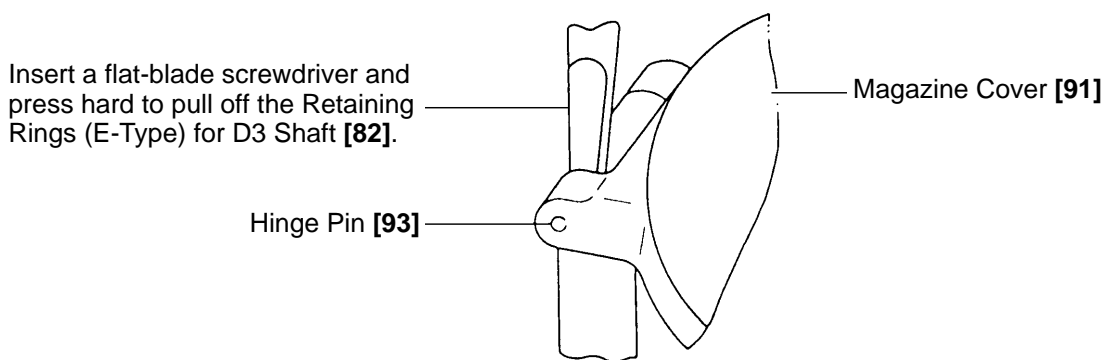

Fig. 16
- Insert a flat-blade screwdriver into a clearance between the Magazine Cover [91] and the Magazine [81], and press it hard to pull off the Retaining Rings (E-Type) for D3 Shaft [82] (See Fig. 16) (Take care not to lose the Retaining Rings (E-Type) [82]).
- Insert a flat-blade screwdriver into a clearance between the Magazine [81] and the Magazine Stopper [84], and press hard to pull off the Retaining Rings (E-Type) for D3 Shaft [82] (See Fig. 16).